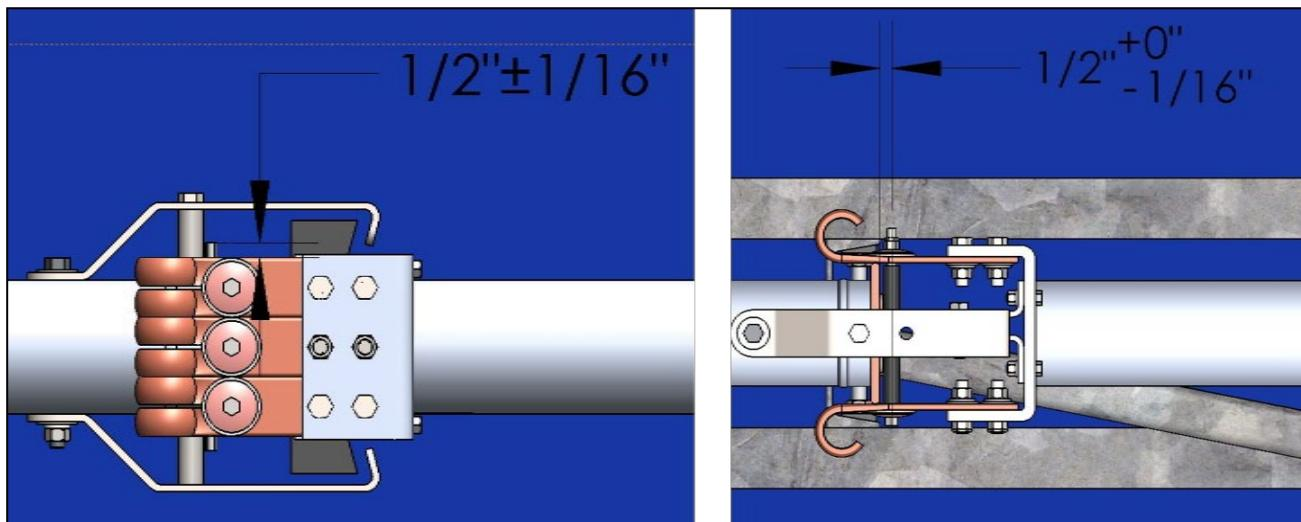

Figure 21: Switch - Fully Closed Position (Left: Side view, Right: Top view)
3.1. Start with the disconnect switch and operating mechanism in the closed position. Refer to Figure 21.